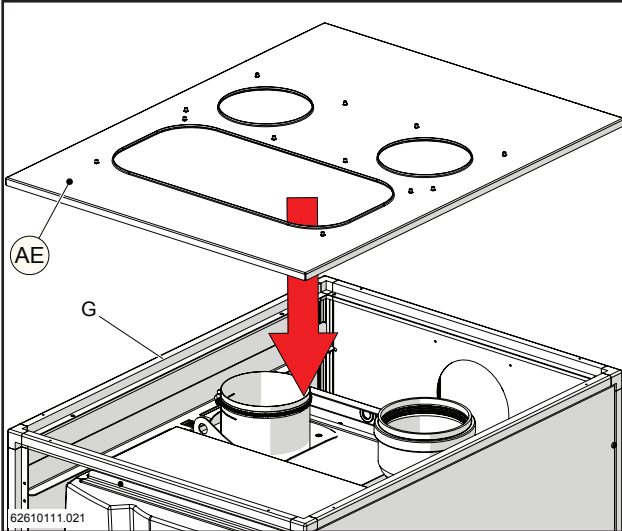

Figure 15-63
- 15.- Position the top cover (AE) on the upper framework "G" and attach it using screws "B" in correspondence with the holes (figures 15-63 and 15-64).